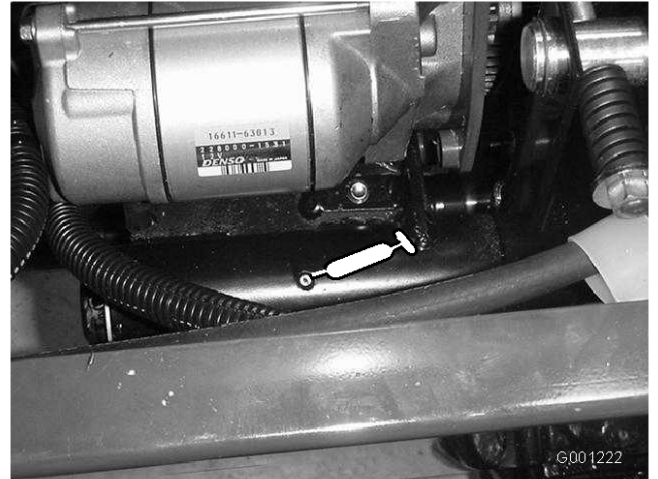

Figure 37
- PTO tension pivot (Figure 37)
- Rear PTO bearing (Figure 37)